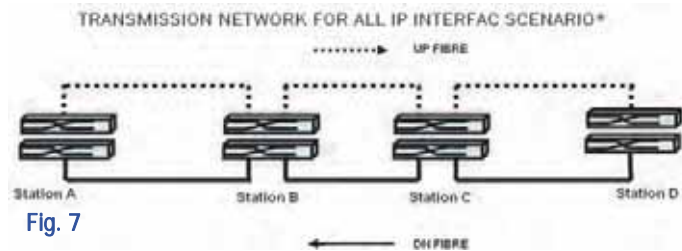

Fig. 7
A Telecommunications backbone network serving only Ethernet (IP) interfaces can be configured using Layer-3 switches with optical ports and can do away with requirements of all SDH components in the backbone. The backbone fibre (UP & DN) will now be connected directly to the Layer-3 switch to form multiple rings as shown in Fig. 7.